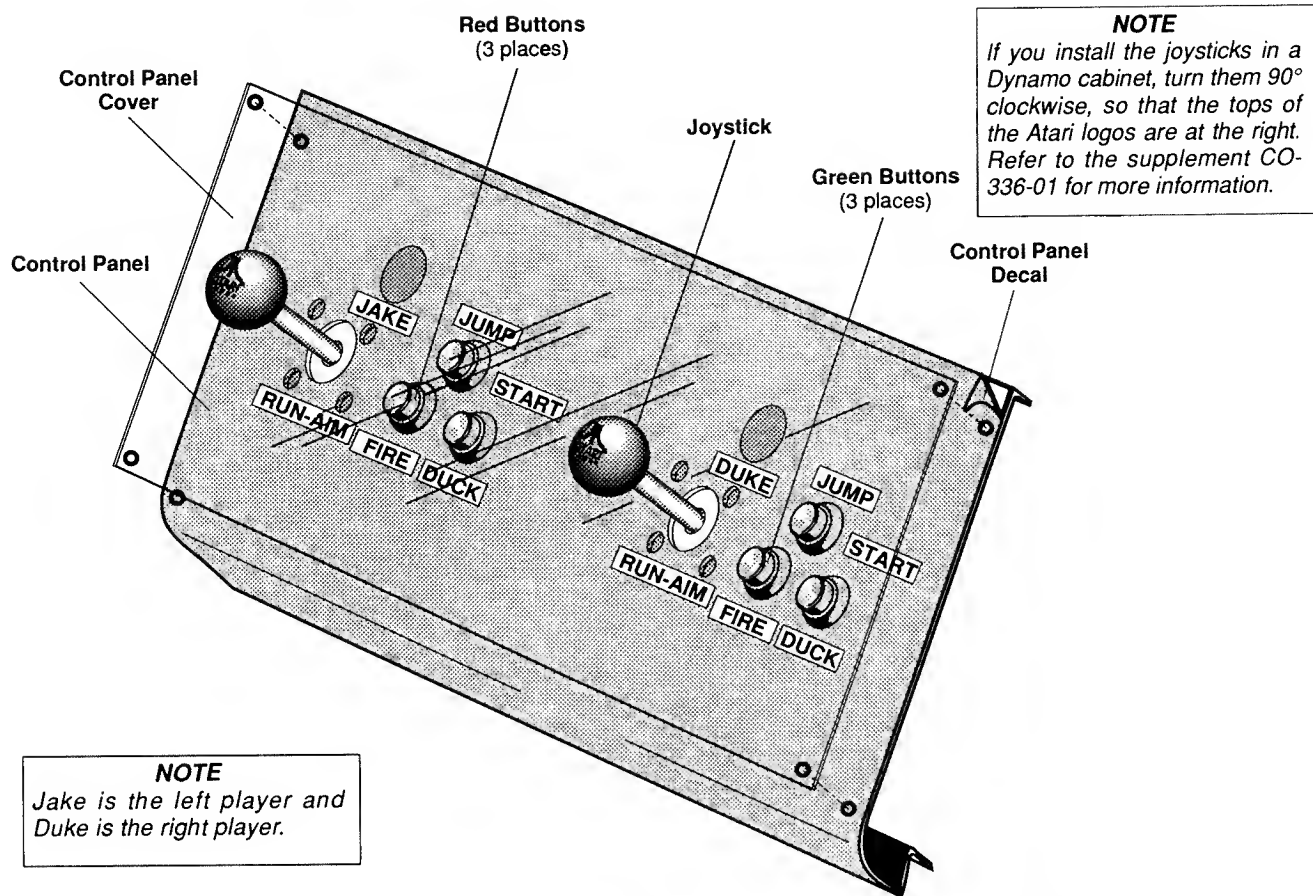

Figure 1-2 Assembling the Escape Kit Control Panel and Cover
trol panel cover. See Figure 1-2 for the controls arrangement.
3. Put the control labels on the control panel. (See Figure 1-2.)
1. Install the red player control buttons on the left player and the green player control buttons on the right. (See Figure 1-2.)
2. Mount each joystick assembly on the control panel with four carriage bolts and locknuts. Install the joysticks so the Atari Games logos are upright. See Figure 1-2. *If you install the joysticks in a Dynamo cabinet, turn them 90° clockwise, so that the tops of the Atari logos are at the right. Refer to the supplement CO-336-01 included with this kit for more information on special-case control installation.*